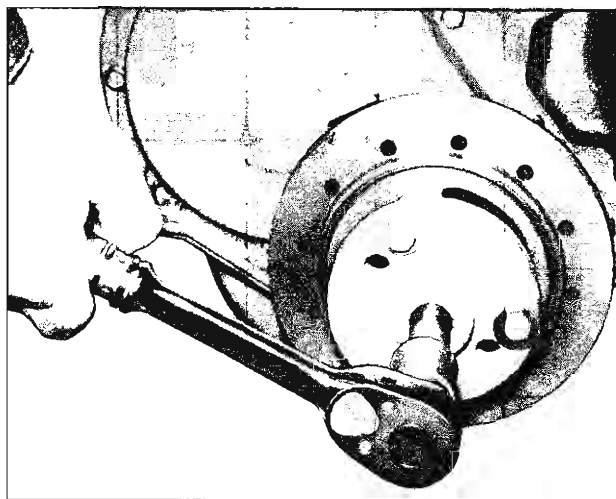

Fig. 13L—Removing Harmonic Balancer
4. Install Tool J-6978 to balancer and turn puller screw to remove balancer (fig. 13L). Then remove tool from balancer.